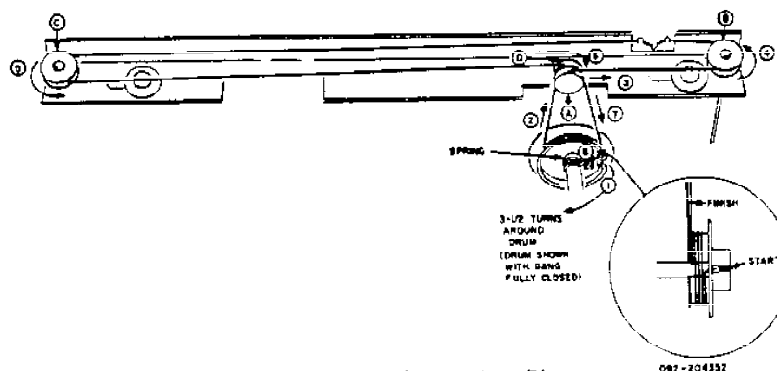

Figure 13. Dial Cord Stringing Diagram
5. Restraining the dial cord as follows (Figure 13):
- (b) Proceed clockwise (1) around the drum $3\frac{1}{2}$ turns and up over wheel "A" (2) to wheel "B" (3).
- (c) Continue around wheel "B" (4) and across to wheel "C".
- (d) Continue around wheel "C" (5) and back across to wheel "D" (6) and down to the tuning drum (7).
- (e) Finish up by routing the cord into the drum slot and attach to the drum spring (8).